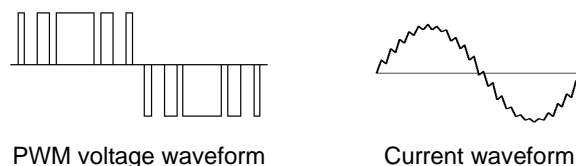

Figure 1.24 Output Voltage and Current Waveform of the Inverter
The voltage applied to the motor has a waveform modulated by the carrier frequency from the dynamic torque vector flux controller that estimates the optimal PWM signal monitoring the inverter output current feedback, as shown on the left-hand side ("PWM voltage waveform") of Figure 1.24. The voltage consists of alternating cycles of positive and negative pulse trains synchronizing with the inverter's output frequency.
The current running through the motor, on the other hand, has a fairly smooth alternating current (AC) waveform shown on the right-hand side ("Current waveform") of Figure 1.24, thanks to the inductance of the motor coil. The control block section controls the PWM so as to bring this current waveform as close to a sinusoidal waveform as possible.